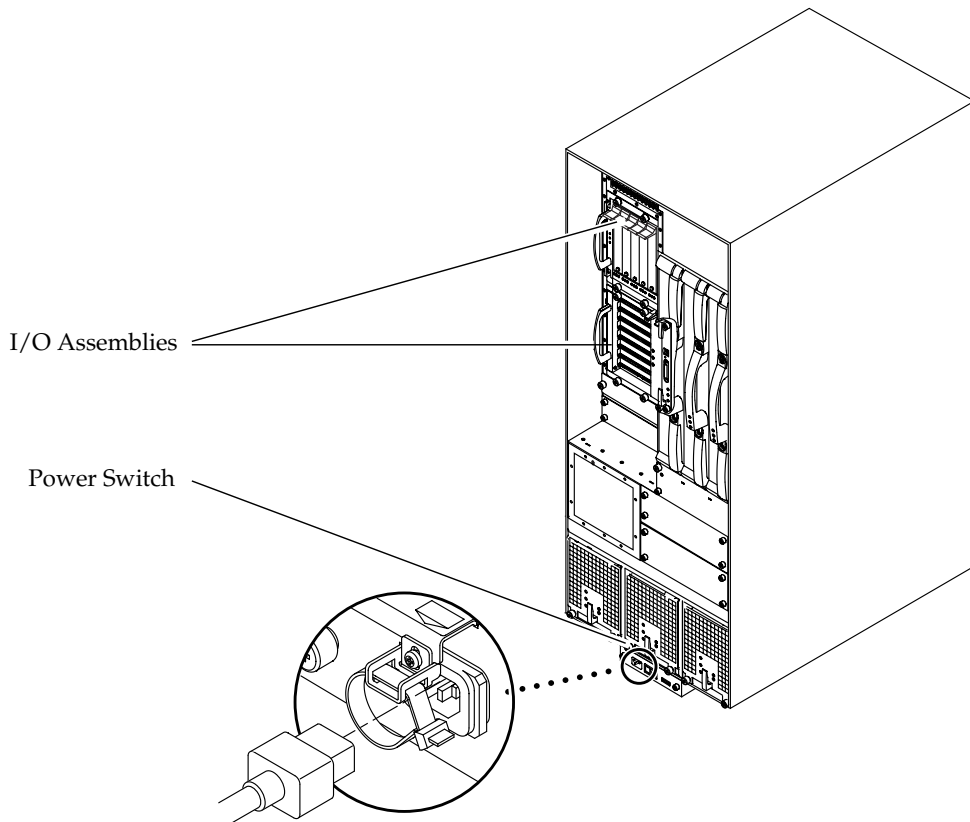

FIGURE 3-1 Power Switch, Power Cord Socket and I/O Assembly Locations on the Sun Fire 4810 System
1. Turn each power switch to the off position (FIGURE 3-1).
The I/O assemblies provide network interface and peripheral access for the domains (FIGURE 3-1).
1. Turn each power switch to the on position (FIGURE 3-1).
6. Turn each power switch to the on position (FIGURE 3-1).